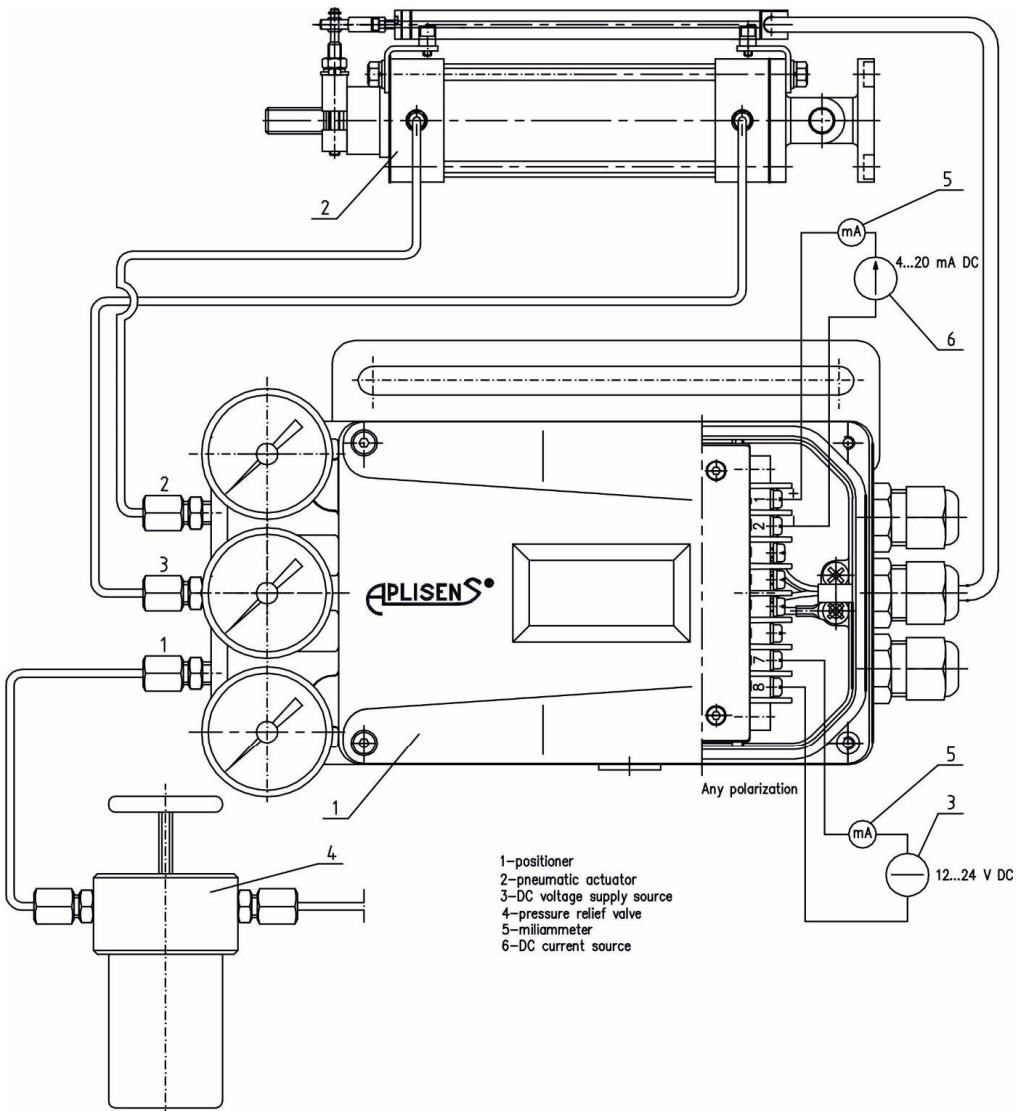

Fig. 19. Diagram of wiring circuit for launching APIS-2X1... and APIS-2X2... positioner (linear double-acting actuator)
- Positioner APIS-2X1-... and APIS-2X2-... installed on the actuator acc. to sect. 10.6. should be wired acc. to the diagram presented in Fig. 19.